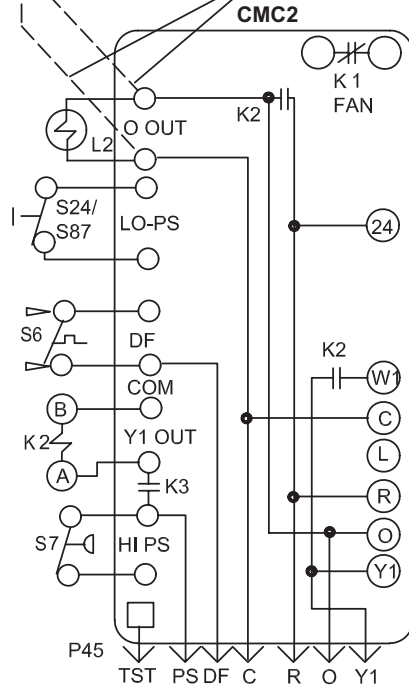

FIGURE 4
- 2 - Disconnect unit wires to CMC1-0-OUT and CMC2-0-OUT and reconnect. See FIGURE 3 and FIGURE 4.
- 3 - Use 24V harnesses (4), (5), (6), provided in this kit, to make wire connections as shown in FIGURE 3 and FIGURE 4.
- 4 - Connect A188 & A189 pressure transducer quick-connects to A190 & A191 head pressure controls. See FIGURE 4.